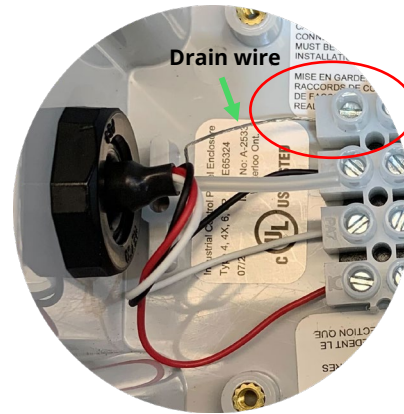

Figure 2
- b) If your box is wired as in Figure 2, with the silver drain wire attached to a separate screw in the terminal strip, no action is required.